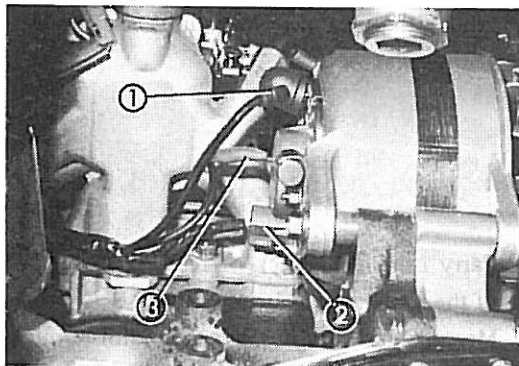

Fig. 8-23 Disconnecting Alternator Wirings
- (1) Negative ⊖ terminal of battery
- (2) Disconnect the wirings ① ② & ③, as indicated in Fig. 8-23, from the alternator.
- (3) Slacken the three setting bolts of the alternator.
- (4) Remove the "V" belt.
- (5) Remove the three setting bolts of the alternator. And take the alternator out.